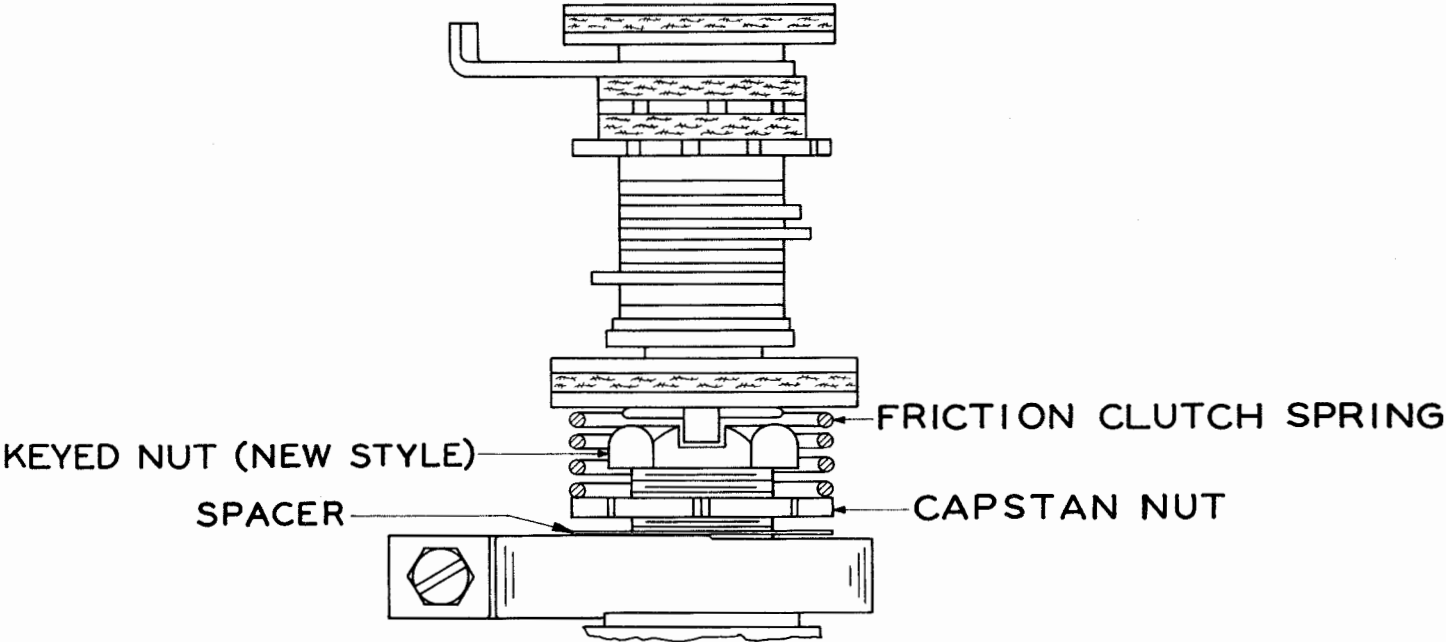

Figure 4
(1) On units equipped with the new-style capstan nut, keyed nut, and spacer (see Figure 4 for parts) hold the capstan nut
stationary and rotate the main shaft clockwise, viewed from the selector end of the shaft, to increase the torque and counter-clockwise to decrease the torque. See Figure 4 for parts.